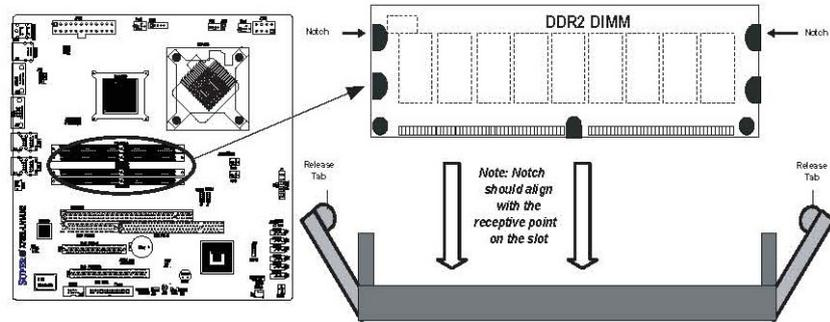

Figure 16: Installing a DIMM
4. Insert the DIMM into the tab by pressing, one at a time, on the edges of the DIMM. Ensure that you press the DIMM vertically into the tab. See Figure 16.